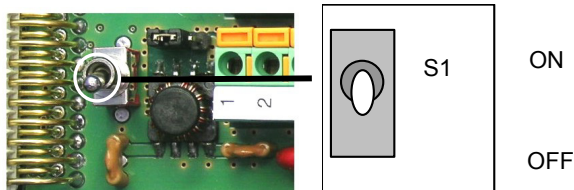

Figure 6 - Power Switch ON/OFF Positions
Switch ON the C-BOX 3X0 power switch (see Figure 6).
The power switch (see Figure 6) switches the power supply ON or OFF for both the C-BOX 3X0 and the connected scanner.
- 2) Verify that the C-BOX 3X0 power switch is off (see Figure 6).